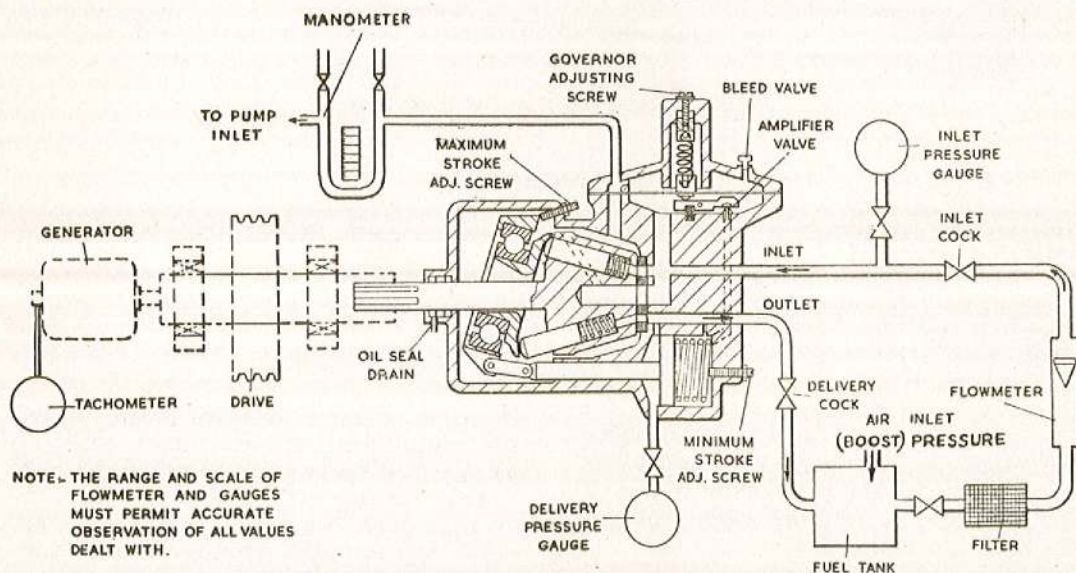

Fig. 33. Diagrammatic layout of test rig (calibration)
91. The pump must now be given a preliminary calibration test for which it must be mounted on the test rig and connected up as shown in fig. 33.